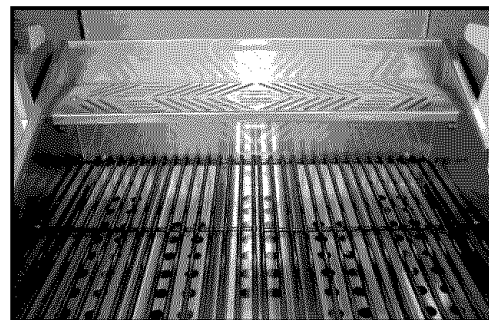

Fig. 14
3. Place warming shelf on support brackets by setting it flat across brackets allowing the two holes to line up with the stops on each bracket. (See Fig. 14)